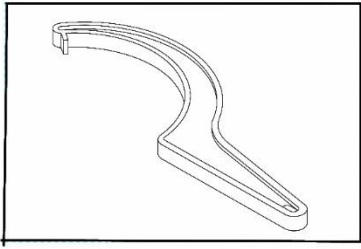

Fig. 23
- ❖ The tight tension of the coarse focus knob has already been adjusted before leaving factory. If loosen (e.g. the stage slip down by its weight), please screw the intention adjustment collar ③ to the right position by the supplied spanner.
4.2.5. Condenser Adjustment (Fig. 23)